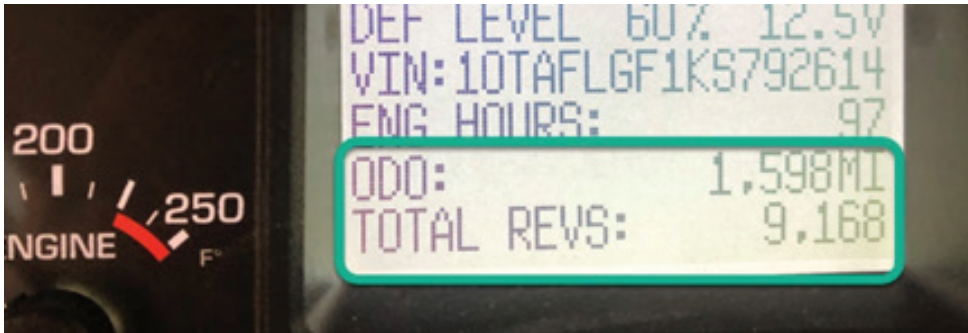

Figure 7
13. Check Odometer and Total Drum Revolution values that were recorded in Step 7. Press the right-side instrument cluster button until they appear in the display. See Figure 7. These values can also be found in overhead display About Screen.